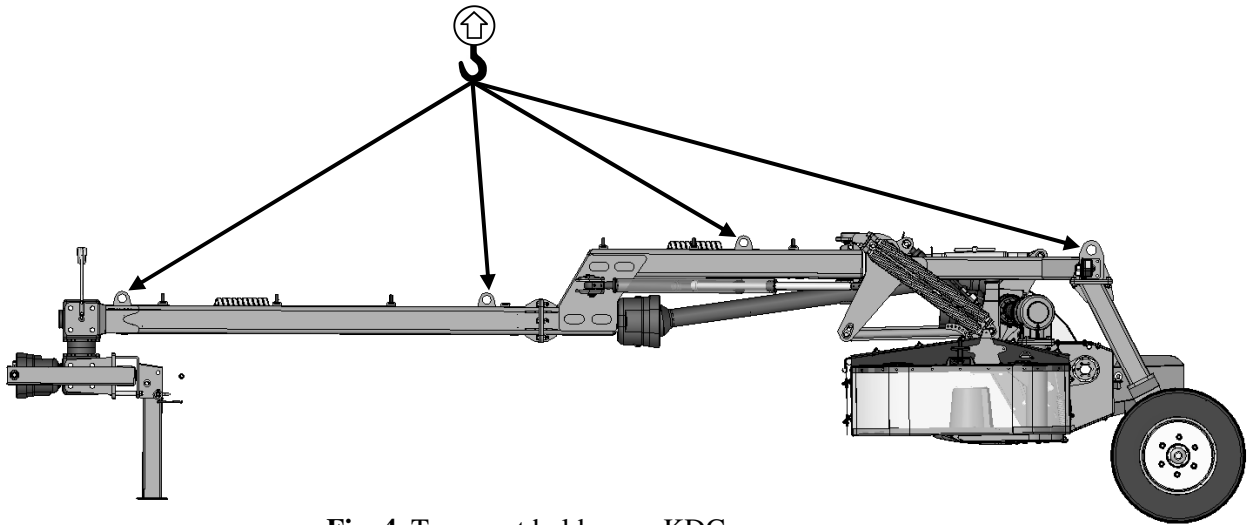

Fig. 4. Transport holders on KDC mower
- Grab the mower by any lifting devices only in places indicated by hook sign (**Fig. 4**),